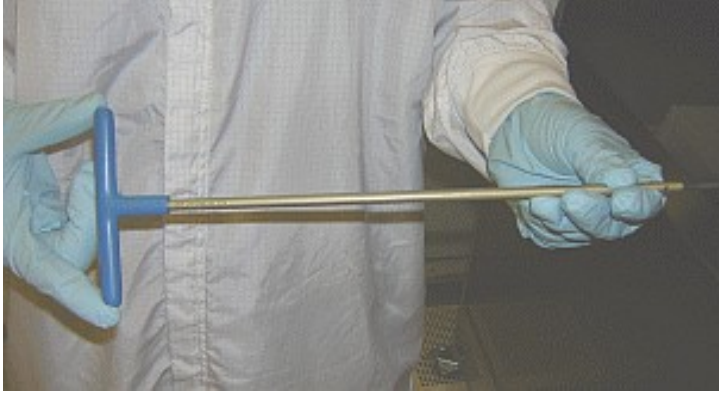

Figure 2-9: "T" hex or Allen wrench
- ❖ **System:** Loosen 3 screws holding write head with the 3 mm “T” hex wrench (figures 2-9 and 2-10) while supporting the write head with your hand.